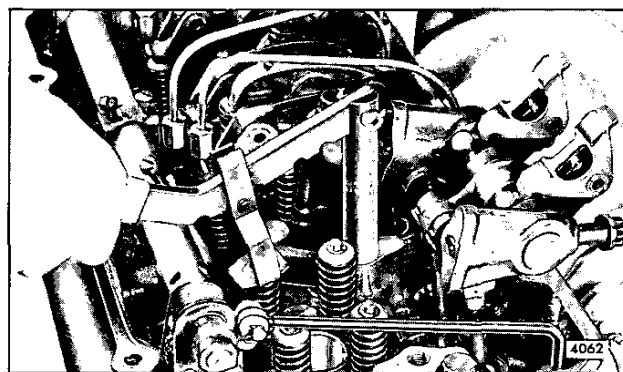

Fig. 2 - Removing Valve Spring Using Tool J 7455
6. Thread the valve spring compressor adaptor tool J 7455-4 into one of the rocker arm bracket bolt holes in the cylinder head (Fig. 2). Then, compress the spring and remove the two-piece valve lock.